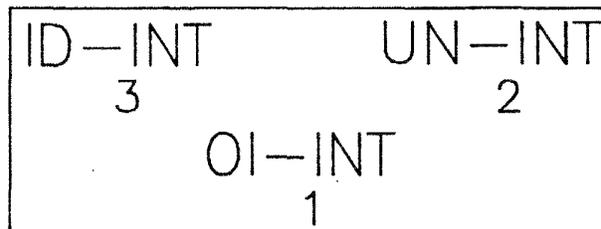

Figure 3.—The correct settings for the Program Parameters for the example data collection session.
- 1-5 Check to make sure that your screen has the same settings as the screen in Figure 3. If the settings are different, return to the appropriate step above and key in the correct value. When the settings are correct, press <ESC> to return to the Main Menu. You are now finished specifying the program parameters, which will remain the same until they are reset. Turning off the Polycorder will not affect the settings.